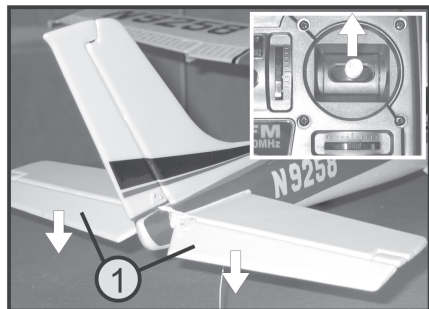

Figure 16c
- When you push the right control stick on the transmitter upwards (see figure 2, pos. 4), the elevator balance tab (1) has to deflect downwards by approx. 1 cm (see figure 16c).